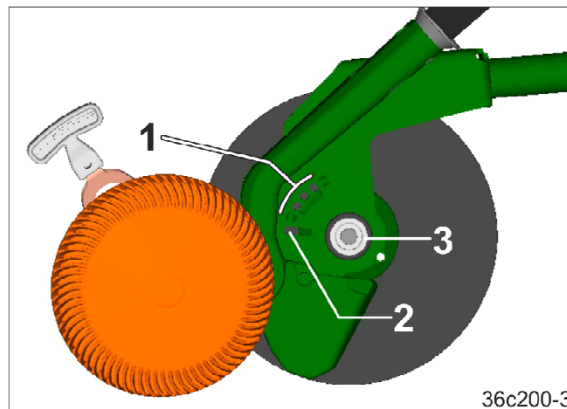

Fig. 172
1. Engage the lever beyond the catch (Fig. 172/1) in the elongated slot (Fig. 172/2).
2. Push the coulter disc in the elongated slot (Fig. 172/2) until the coulter disc is released from the locking mechanism (Fig. 172/3).